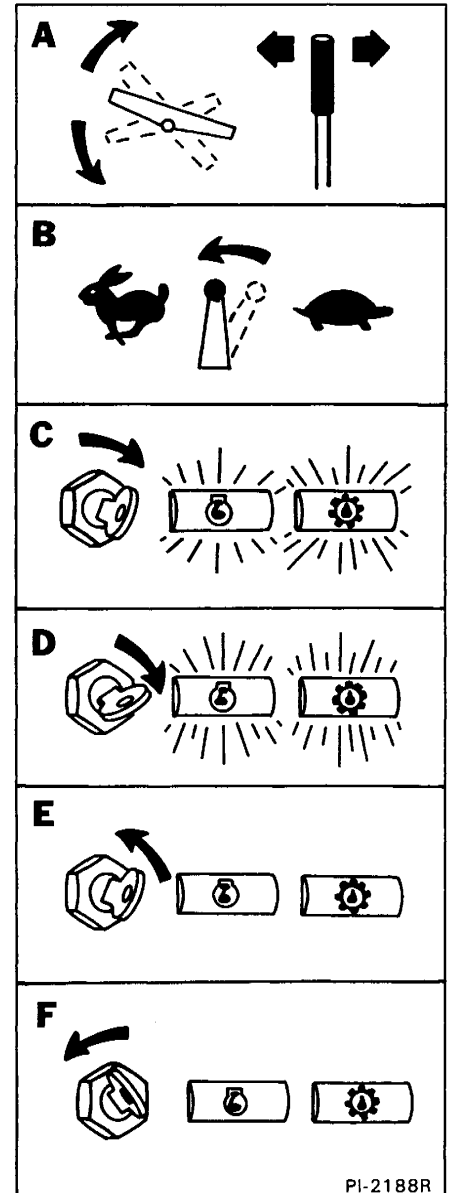

Fig. 26 Starting Procedure
2. Make sure that the controls are in the neutral (Center) position (Fig. 26, Item A).
3. Put the throttle at 1/2 throttle position (Fig. 26, Item B). Pull the stop control fully up.
4. Turn the key switch to the "ON" position. Check that the engine and the transmission warning lights are illuminated (Fig. 26, Item C).
5. Turn the key to the left to the "Pre-Heat" position (Fig. 26, Item F). (See Chart Below)
6. Turn the key to "START" and hold it until the engine starts (Fig. 26, Item D). The engine must start within 15 seconds. If the engine does not start, pre-heat again. DO NOT run the starter more than 15 seconds. Let the starter cool for one minute before engaging the starter again.
When the engine has started, the warning lights must go "OFF" (Fig. 26, Item E). Stop the engine if the warning lights do not go off. Check for the cause of the problem (See the "Troubleshooting" section of this Operator's Manual).